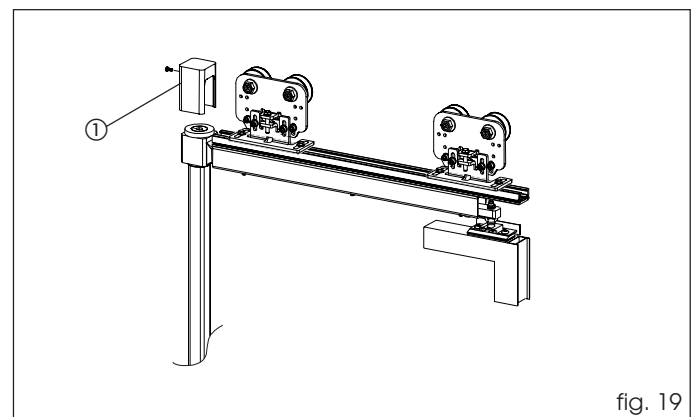

fig. 19
Fit the closure cap using the supplied screw (fig. 19 ref. ①).